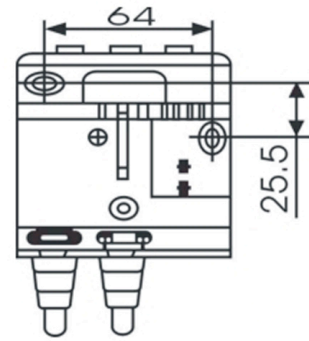

Fig 2.
- 2.5 Mark and drill 6mm diameter by 35mm deep holes as per Fig 2.